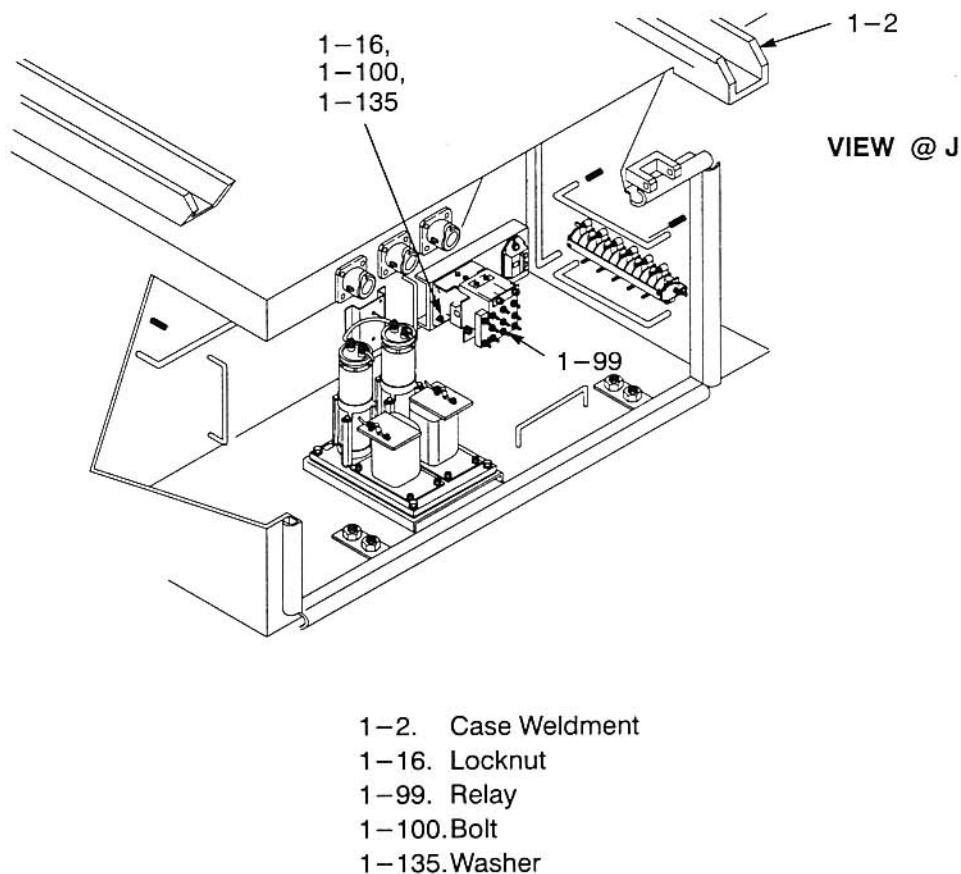

Figure 7–132 Remove/Install Relay – 17LV66AV1
- b. Remove/install hardware (1–16, 1–100, 1–135, Figure 7–132) which secures relay (1–99) to the case weldment (1–2). Torque hardware to 30–35 in. lbs.